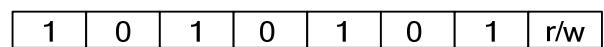

Figure 7: I²C Compatible Device Address
After the start condition, the I²C-compatible master sends a 7-bit address followed by an eighth read (1) or write (0) bit. The following bit indicates the register address to or from which the data is written or read (see Figure 7).